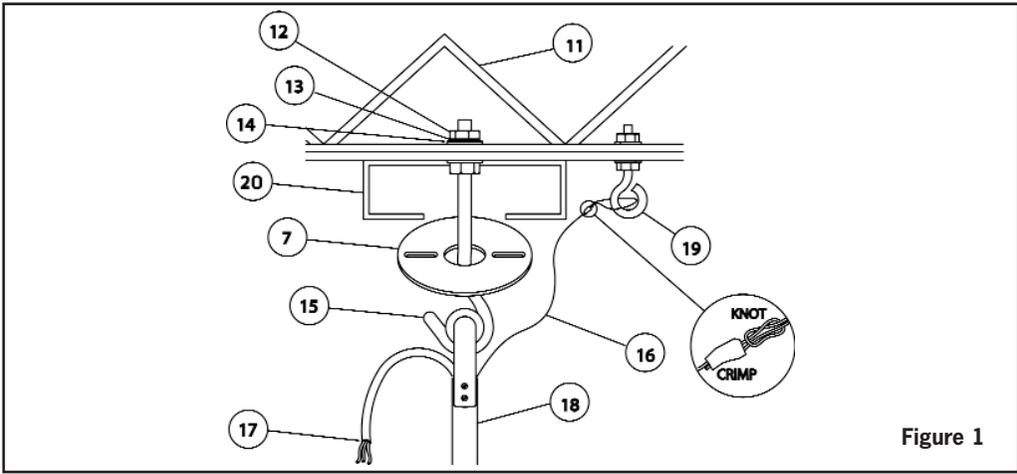

Figure 1
4. To reduce the risk of personal injury install the safety cable (per Fig. 1).
1. Using Machine Threaded Hooks for Steel Frame Ceiling (Fig. 1)